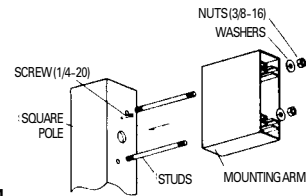

Figure 4
- Install luminaire and secure with flat washers and locknuts provided. See Figure 4.